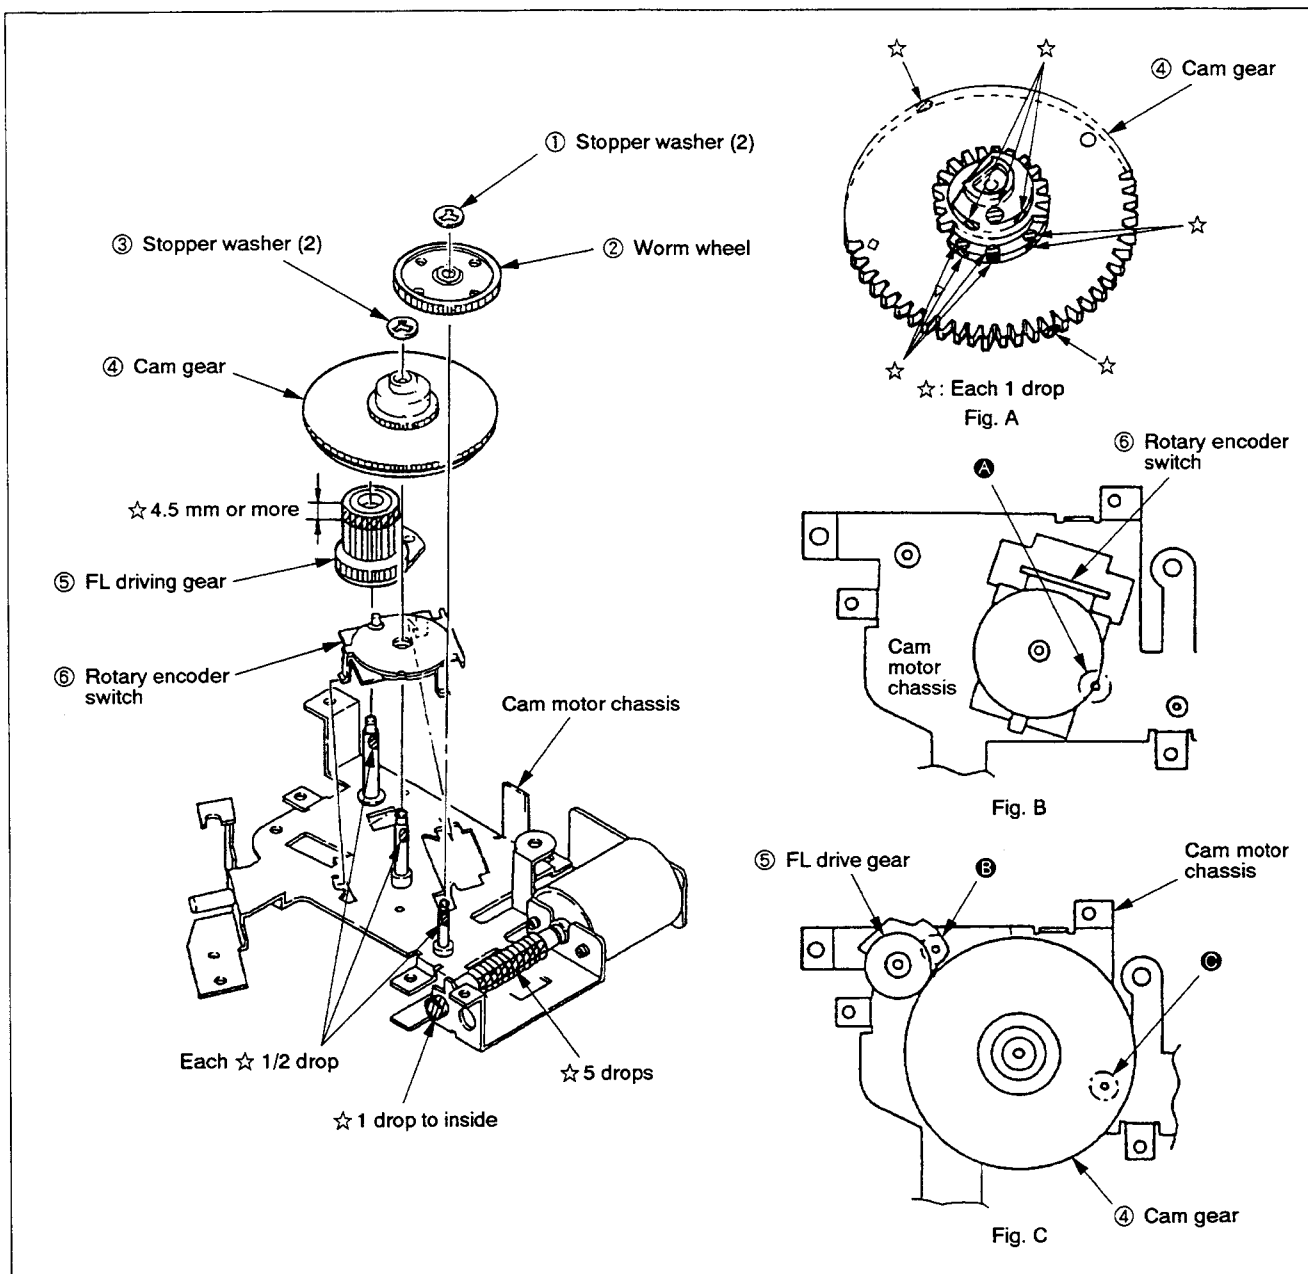

Fig. 3-19
3-17. ROTARY ENCODER SWITCH (Fig. 3-19)
- Apply FLOIL SG-055G (Jig Ref. No. J-12) to ☆ marked portions. (Fig. 3-19, A)